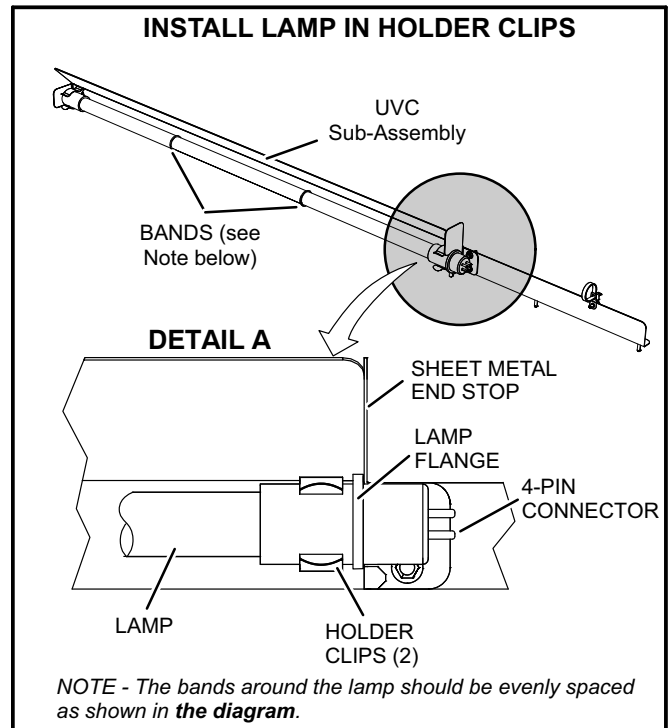

FIGURE 33
- 7- Wear cotton gloves or use a cotton cloth when handling the new lamp. Place the new lamp in the holder clips of the UVC assembly. Verify that the lamp flange at the connector end is sandwiched between the lamp holder clip and the sheet-metal end stop (see figure 33).